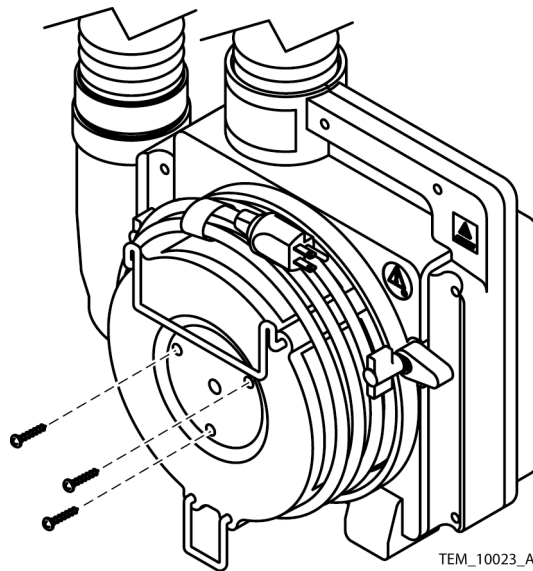

Figure 3-2. Filter Cover Screws
5. Remove the filter cover screws. See Figure 3-2.